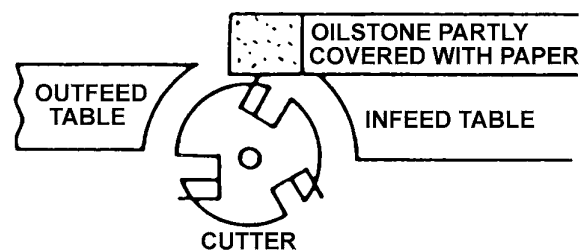

Figure 47
3. To protect the infeed table from scratches, partially cover the sharpening stone with paper (Figure 47).